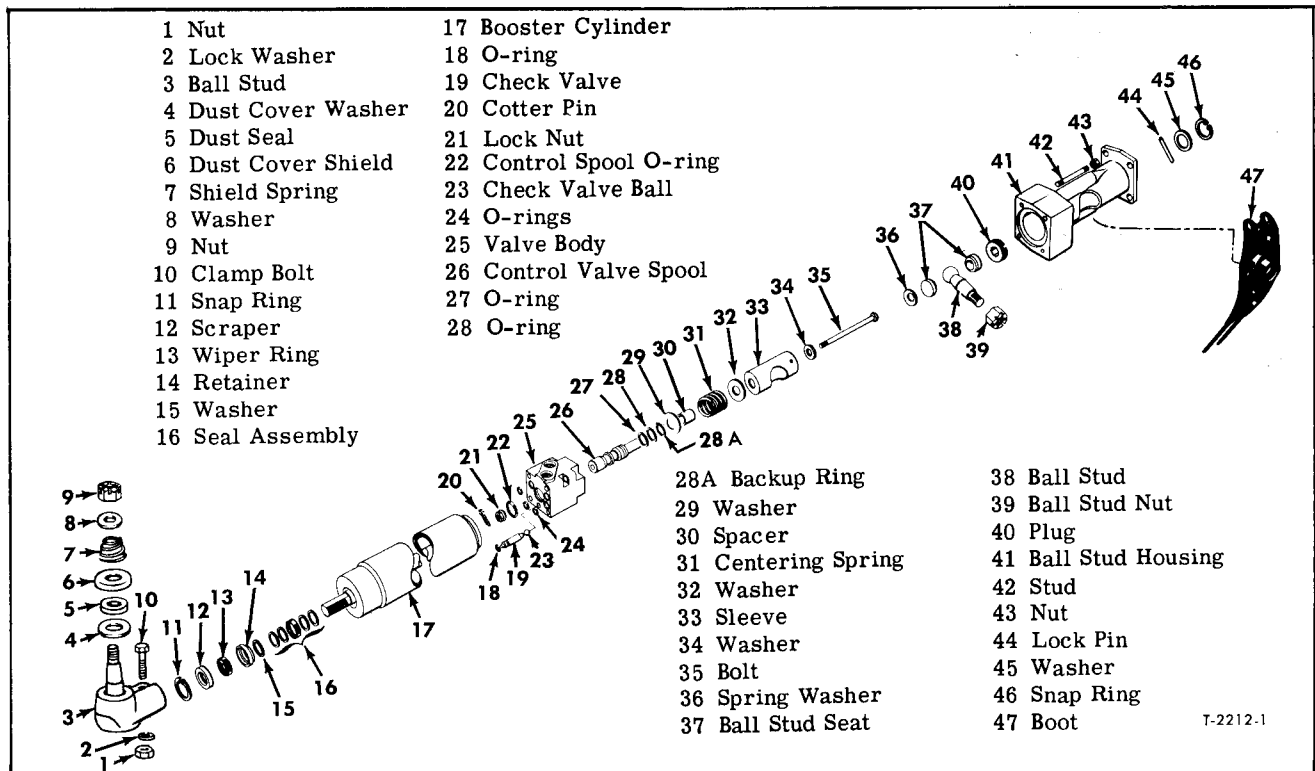

Figure 7—Power Steering Booster Cylinder Components
Key numbers in text refer to figure 7.
1. Discard all seals, wipers, scrapers, and bolt and nut (21 and 35, fig. 7) and replace with new parts upon reassembly. Wash all parts in a good grade of mineral spirits.